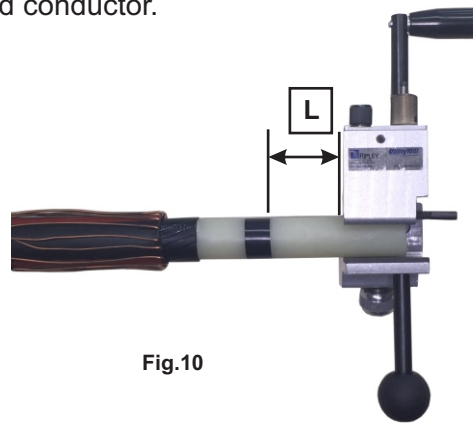

Fig.10
5. Establish the conductor strip length (L)
- Similar to jacket stripping, determine where the tool will finish the end strip cut. As shown in Figure 10, 'L' is the length of the exposed conductor.